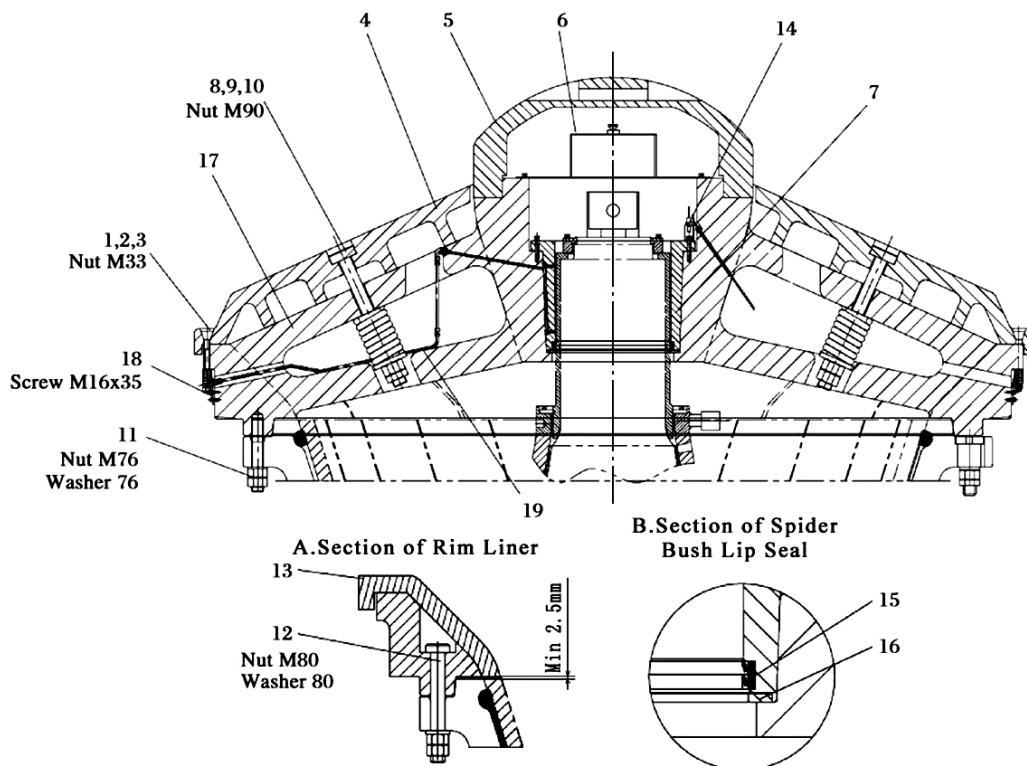

Fig.9-1 Structure of the spider ring assembly (PXZ-1500II)
The spider ring assembly of the gyratory crusher is to provide upper main shaft support and distribution of the feed material into the crushing chamber and there is a specific taper fit between the spider and middle shell. The spider ring unit mainly includes the spider (G0021-18), spider bushing[G0021-7(2) or G0021-7(3)], spider lubrication assembly (G0021-13), spider cap [G0021-5(1)], spider arm liners (G0021-4) and spider ring rim liners (G0021-13). See Figure 9-1 and table 9-1 for the specific structure.